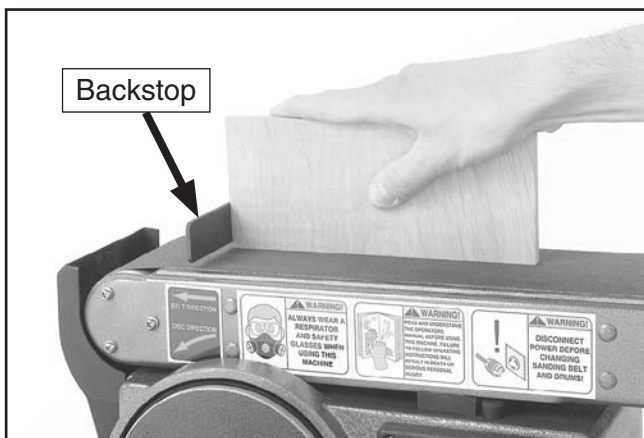

Figure 21. Horizontal belt sanding.
3. Place workpiece on surface of sanding belt, allowing it to rest against backstop. Hold workpiece firmly, and keep fingers away from sanding surface (see **Figure 21**).